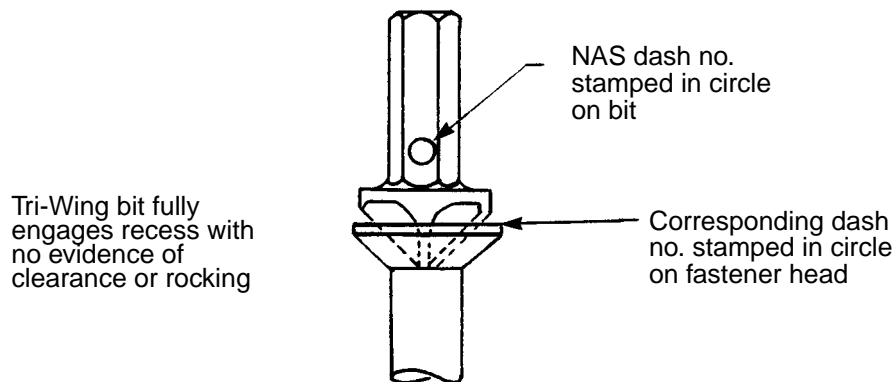

Figure 4 - Tri-Wing Screwdriver
- 5.1.8 Tri-Wing screwdriver bits are available in standard and ACR configurations in the sizes listed in Table 2 for the applicable size fasteners. The applicable fastener head recess dash number, which each size standard or ACR screwdriver bit fits, is stamped in a circle near the tip of the bit, in numerals slightly larger than other identification markings (see Figure 4). Each NAS fastener incorporating a Tri-Wing recess has the recess dash number stamped in a circle on the fastener head, in numerals slightly larger than other identification markings. The correct size standard or ACR Tri-Wing bit will bottom in the recess without evidence of clearance or angular displacement (rocking of bit in recess).